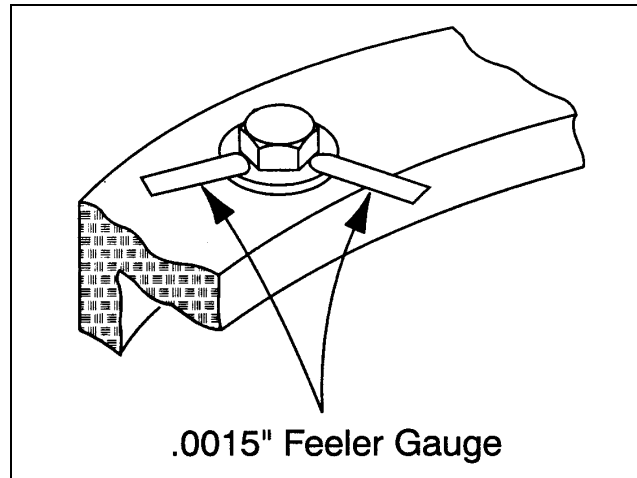

Figure 2-30. Swing Bearing Feeler Gauge Check.
- b. At the positions indicated on Figure 2-30. try and insert the .0015" feeler gauge between the bolt head and hardened washer at the arrow indicated position.
- d. At the position indicated on Figure 2-30. try and insert the .0015" feeler gauge between the bolt head and hardened washer at the arrow indicated position.